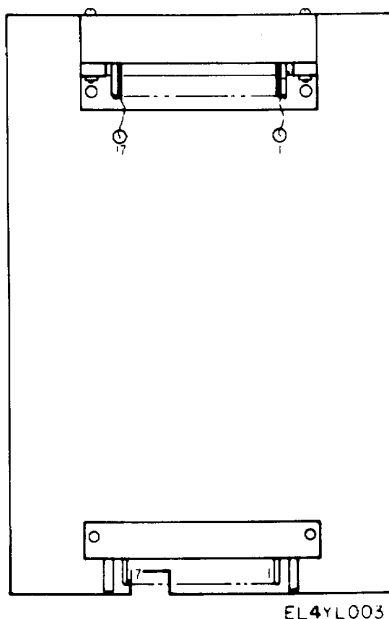

Figure 5-9. Extender Test Board. SM-D-9 13115.
b. *Use of Chart.* The troubleshooting chart (d below) supplements the troubleshooting chart in paragraph 3-10. If previous operational checks have resulted in reference to a particular item of the chart in d below, refer directly to the referenced item. If no operational symptoms are known, begin with item 1 of the troubleshooting chart and proceed until a symptom of the trouble is found.
**In-circuit measurements made at the test points or terminals on A1, A2 or A5 must be performed with the aid of the Extender Test Board, SM-D-943415 (fig. 5-9). To avoid equipment damage, be sure to shut off power supply when extender board is being inserted or removed.**